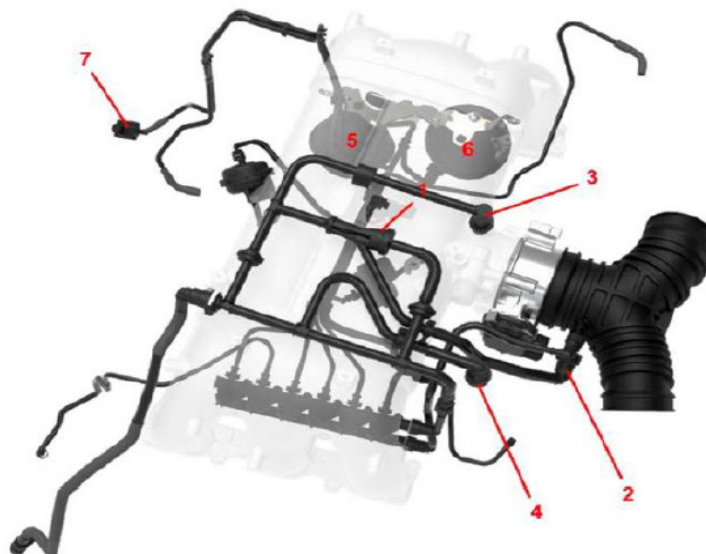

Figure 2
- a. Check the vacuum line connections at the pressure accumulators underneath the intake manifold (5 and 6 in Figure 2 below).